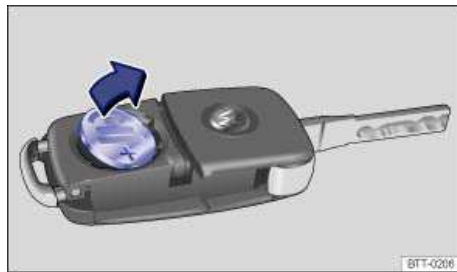

Fig. 24 Remote control vehicle key: Remove old battery.
- Use a thin object to pry the battery out of the battery compartment ⇒ fig. 24.
- Position the new battery in as shown ⇒ fig. 24 and press it into the battery compartment (opposite to direction of the arrow) ⇒ .